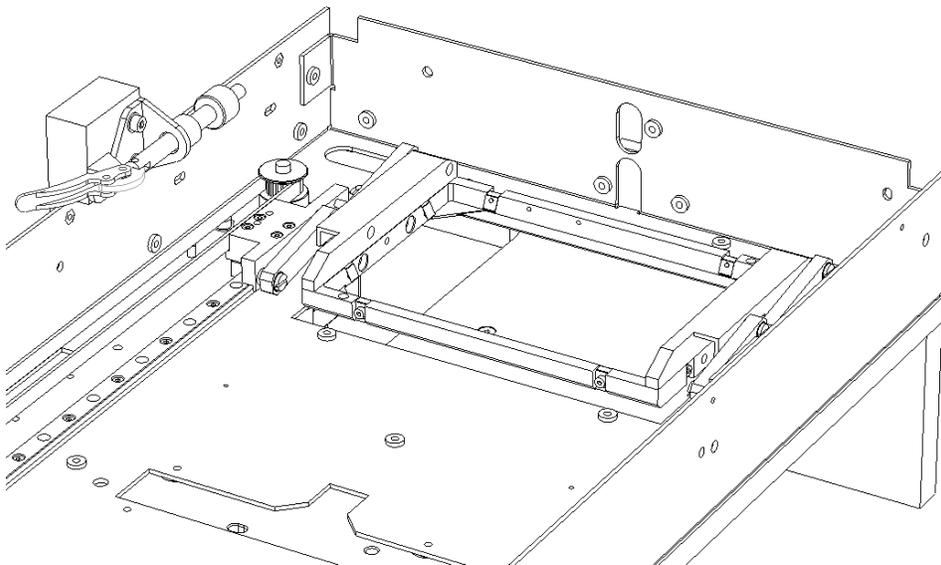

Figure 12-66: Carrier in Front Position
12. Check that the Plate Carrier is still sitting flat by gently tapping the four corners, if the Carrier Bearing Bangs on the Chassis the Carrier is twisted. One at a time slightly rotate ($1/8^{\text{th}}$ of a turn) the Female Shoulder Screws by tightening the Posi Csk Screws fixing them to the LH and RH Carrier Supports (Figure 12-66 and 12-67).